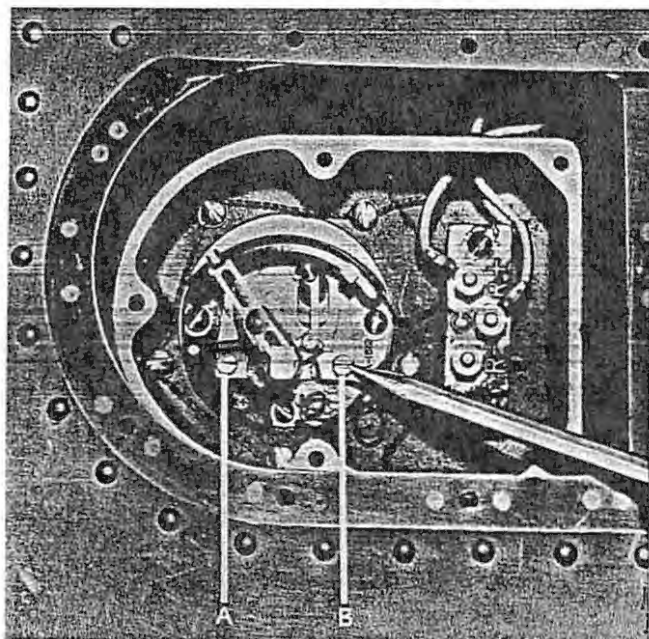

Figure 5-24. Liquidometer Adjustment
3-58. ADJUSTMENTS. Adjustments may be made with the airplane in a three-point position. Two men are required to make the fuel level indicator adjustments, one stationed in the pilot's compartment to check the gage readings and one at the tank unit to adjust the rheostat (see figure 5-24). Gage readings must be made from directly in front of the instrument to insure accurate calibration. In original liquidometer units, no stops were used, however, in liquidometer units being currently installed, stops (external) limit the float arm travel and protect the rheostat mechanism from possible damage caused by mishandling. The stops are adjusted to limit the float arm travel at 33 degrees down and 14 degrees up. Stops cannot be adjusted after installation of the unit. In the event it is necessary to install a new liquidometer unit, check the float arm travel prior to installation and adjust as necessary.
d. Turn empty adjustment, Screw A, on the fuel-level transmitter until the indicator in the cockpit reads "0." Refer to figure 5-24.